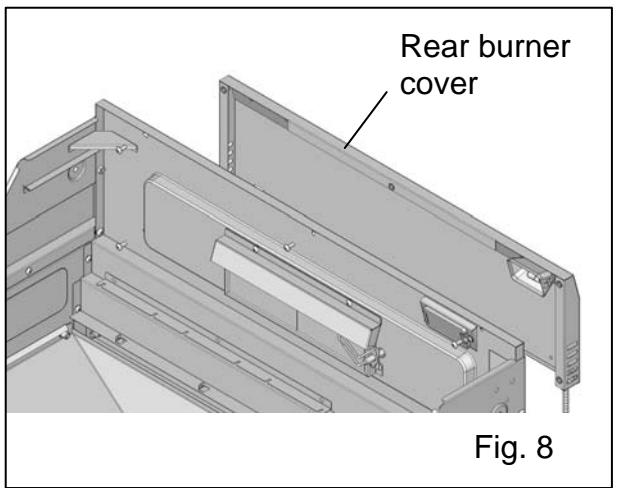

Fig. 8
**During this process, hold the rear burner cover, otherwise, it will drop and may break, possibly causing injury. (Fig. 8)**